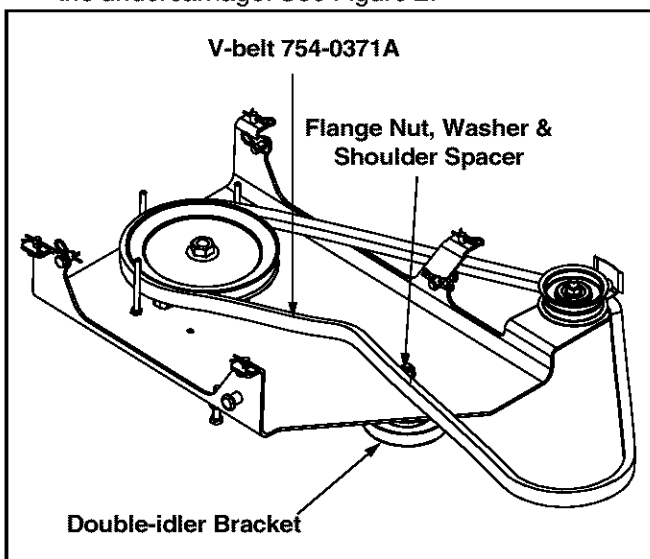

Figure 2
- Remove the flange nut, washer and shoulder spacer which secures the double-idler bracket to the undercarriage. See Figure 2.